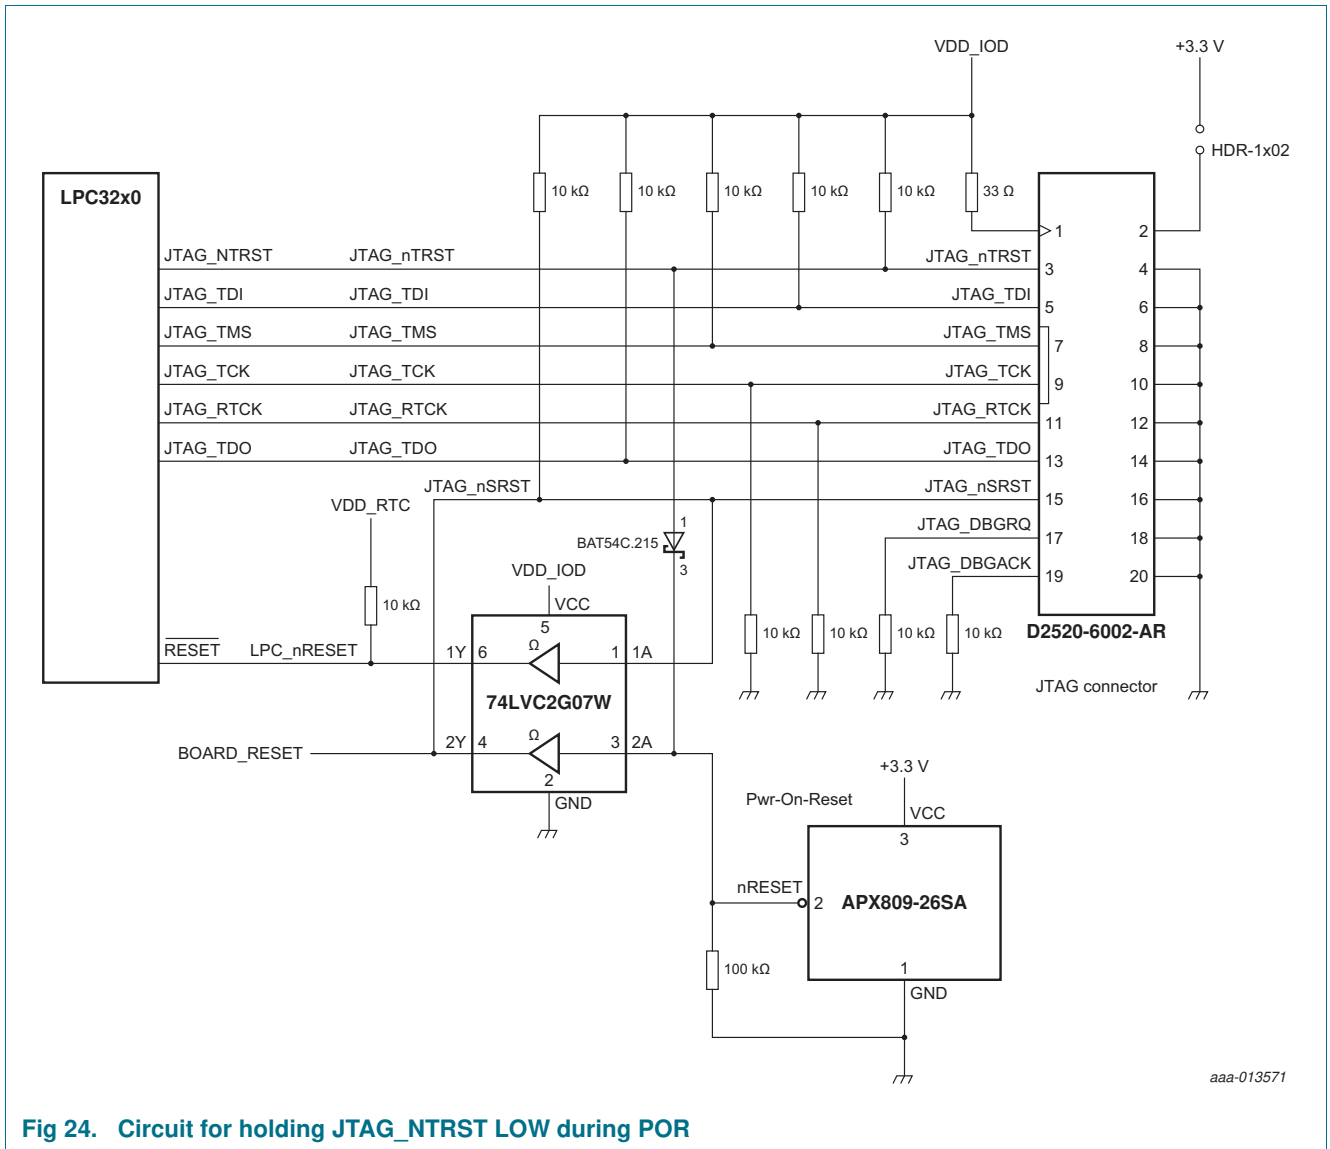

Fig 24. Circuit for holding JTAG_NTRST LOW during POR
- Implement recommended circuit shown in Figure 24.